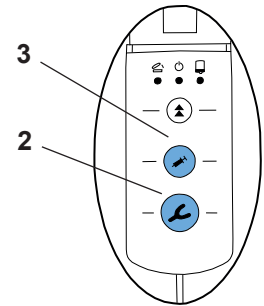

Fig. 8
- If a button is pressed, such as extrude (impression material (2, Fig. 8) or dispense (3, Fig. 8), without having previously selected a programme, the device will automatically activate the  $\text{ST}$  programme. The LED next to the  $\text{ST}$  key goes on.